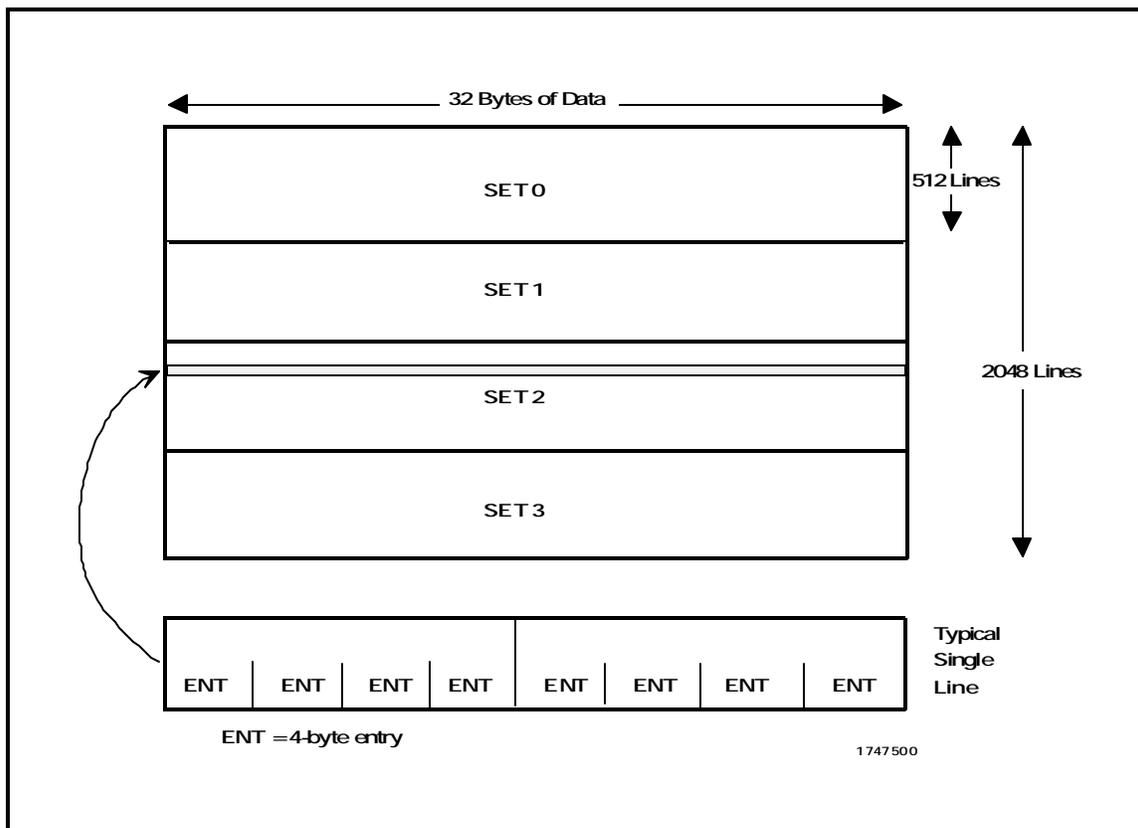

Figure 2-32. Unified Cache
**Cache Organization.** The unified cache (Figure 2-32) is divided into 32-byte lines. This cache is divided into four sets. Since a set (as well as the cache) is smaller than main memory, each line in the set corresponds to more than one line in main memory. When a cache line is allocated,